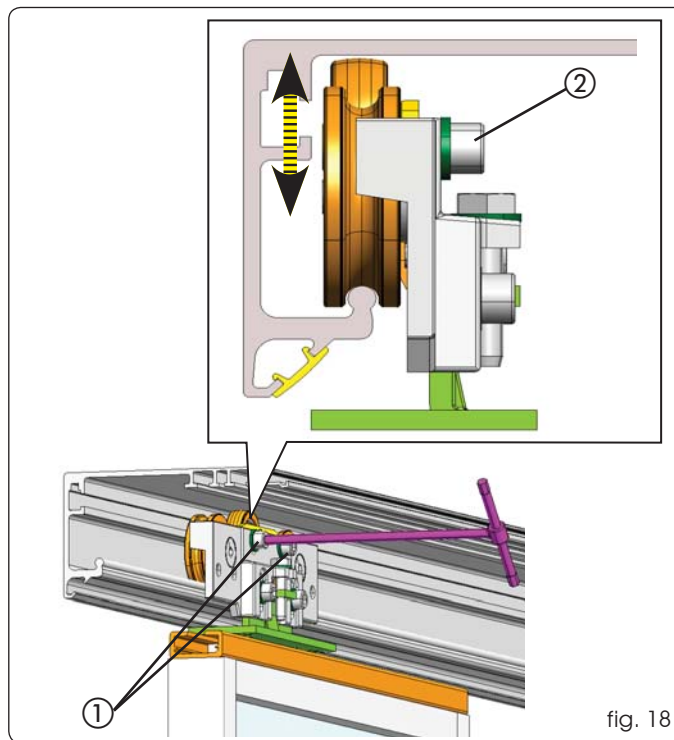

fig. 18
- Loosen the two cylindrical screws (Fig. 18 ref. ①).
- Adjust the height of the wheel support, making it come as close as possible to the main profile without touching it (Fig. 18 ref. ②).
- When you have adjusted the wheel's height, tighten the two cylindrical screws (Fig. 18 ref. ①).